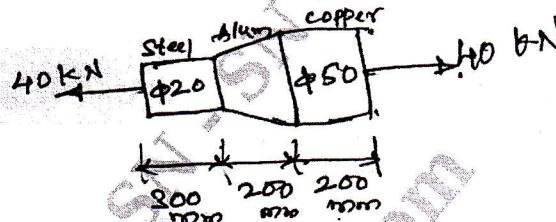

Fig. Q1 (c)
- A stepped bar is subjected to loads as shown in Fig. Q1 (c). Calculate the change in the length of the bar. Take $E = 200$ GPa for steel, $E = 70$ GPa for aluminium and $E = 100$ GPa for copper.